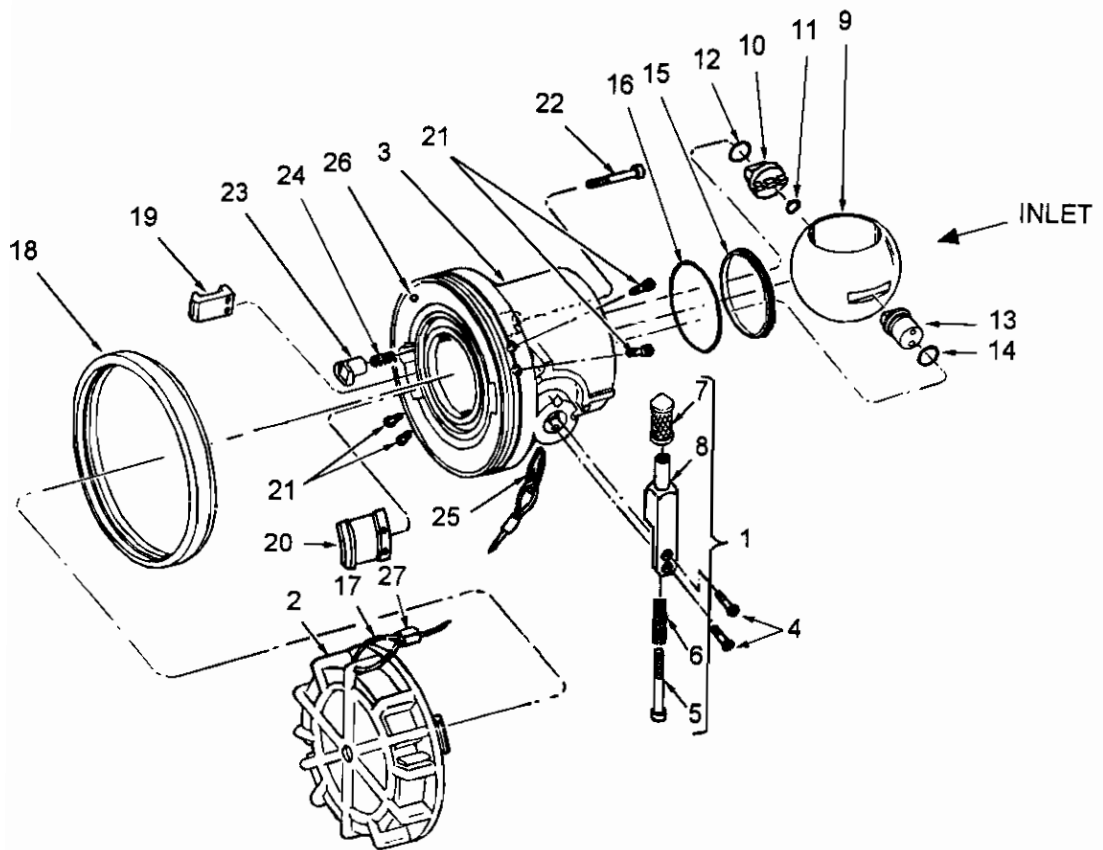

Figure 5-2. Two Inch Valved Unisex Coupling
5.3 REPAIR TWO-INCH VALVED UNISEX COUPLING. (Refer to figure 5-2)